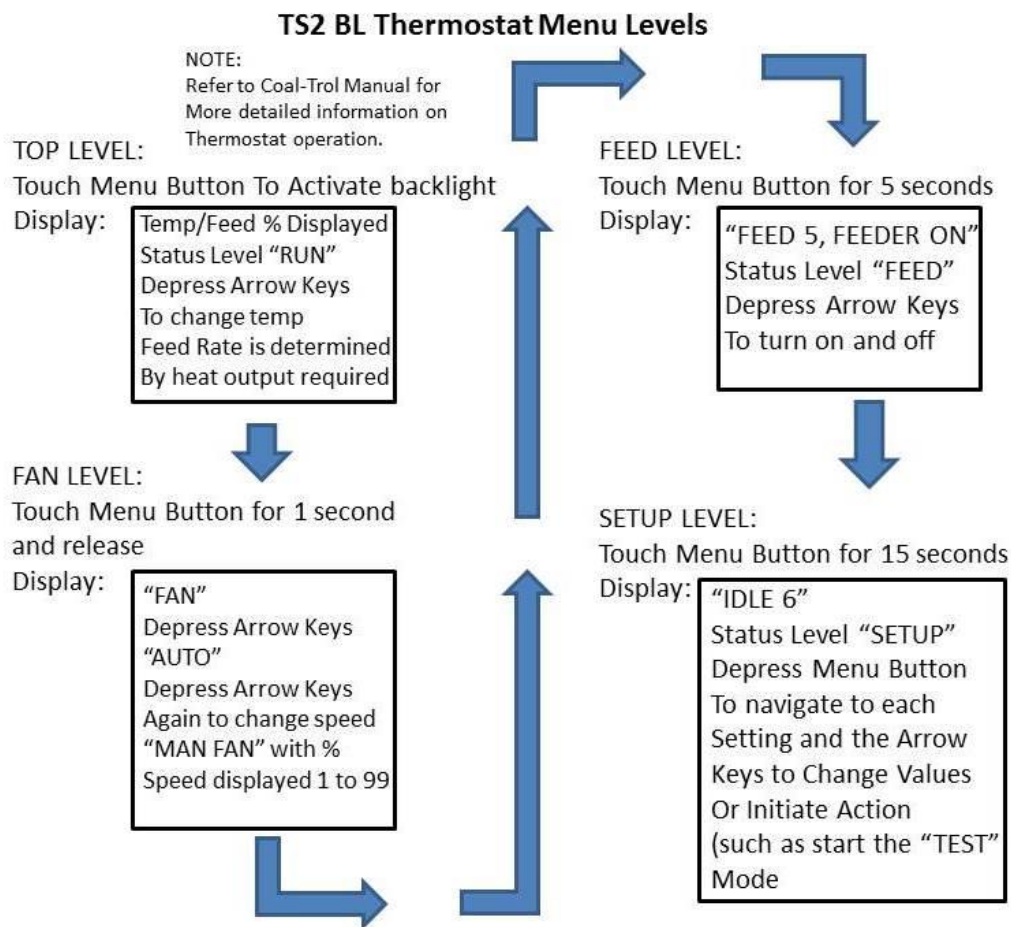

FIGURE 3 TS2 BL Menu Configuration
4. Adjust the rheostat knob so that the barometric damper door is just moving slightly open at full burn. Draft measurement is not required as long as the conditions in Figure 3 and Figure 4 have been met.